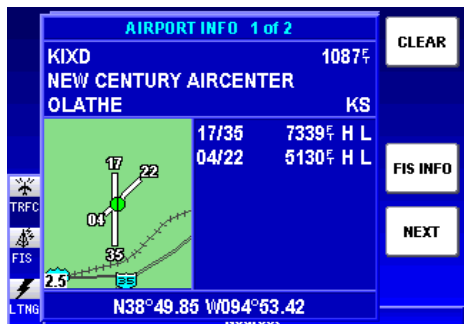

Figure 1-56
2. If more information on a particular airport is desired, use the Joystick or Rotary Knob to place the cursor over the desired airport identifier and press the **MORE INFO** Softkey. Information on the selected airport will be displayed as in Figure 1-56. Press the **NEXT** Softkey to display more information. Press the **CLEAR** Softkey to return to the **FIND NEAREST** display.